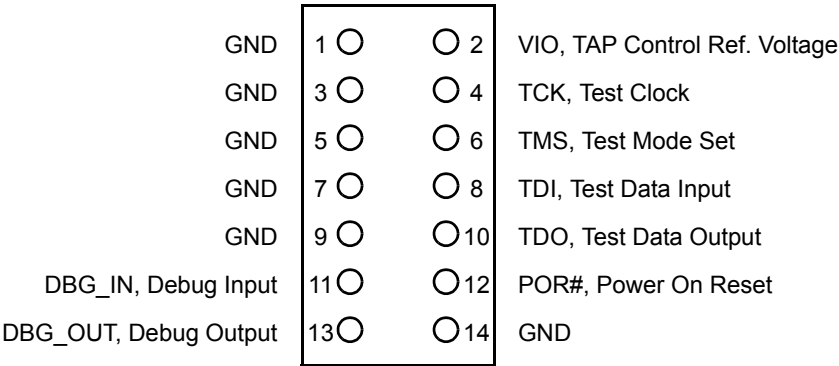

Figure 3.6 – J1 (Geode LX SOM-ETX Module) JTAG Jumper
- IDC connector wired as shown in Figure 3.6.